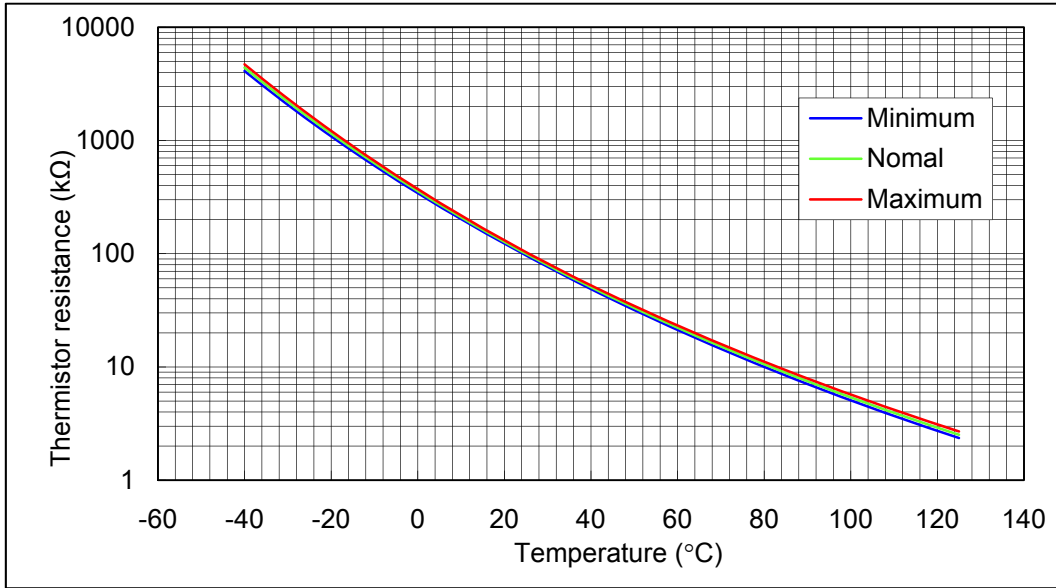
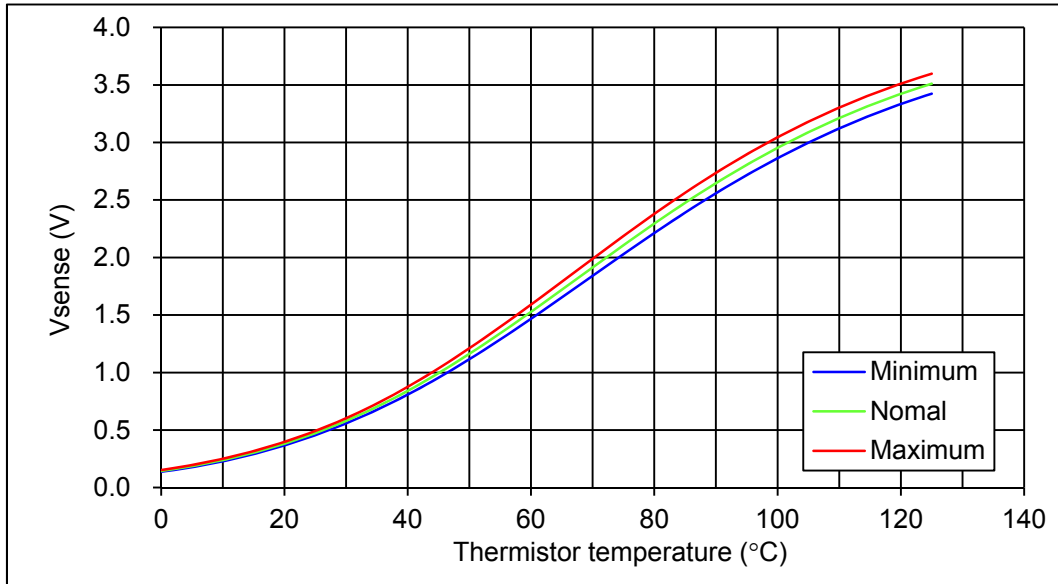
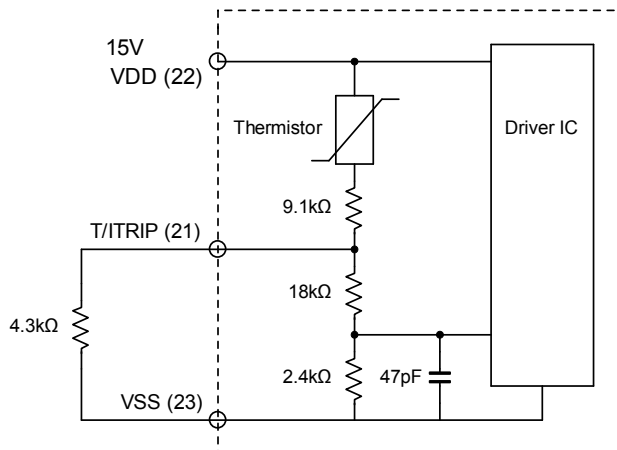

Fig. 10 Variation of thermistor resistance with temperature
Fig. 11 Variation of temperature sense voltage with thermistor temperature by using external bias resistance of 4.3 kΩ ±1% and V_{DD} = 15 V
Fig. 12 Sample application circuit for temperature monitoring
7. Inside the IPM, a thermistor used as the temperature monitor is connected between V_{DD} terminal and T/ITRIP terminal, therefore, an external pull down resistor connected between the T/ITRIP terminal and V_{SS} terminal should be used. The temperature monitor example application is as follows, please refer the Fig.10, Fig.11, and Fig.12 below.